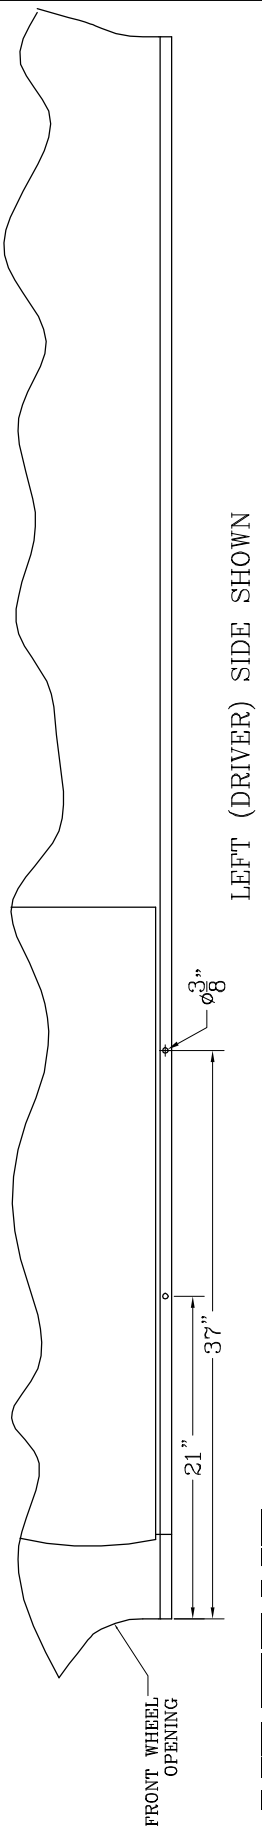

fig.1
1. DRILL (2) 3/8" DIAMETER HOLE THROUGH THE MIDDLE OF THE PINCH WELD FOR THE BOTTOM MOUNTING HOLE. SEE **FIG.1** TO MARK THESE LOCATIONS WHICH ARE MEASURED FROM THE FRONT WHEEL WELL OPENING.
3. WITH THE (2) BRACKETS IN PLACE AND THAT THE UPPER SURFACE IS IN CONTACT WITH THE VEHICLE, USE THE TOP (2) HOLES IN THE BRACKET AS A GUIDE AND DRILL (2) 5/32" HOLES THROUGH THE INNER ROCKER PANEL FOR EACH BRACKET. INSTALL THE 1/4" X 3/4" SELF TAPPING SCREWS (ITEM #5) **USE CARE NOT TO OVER TIGHTEN.**